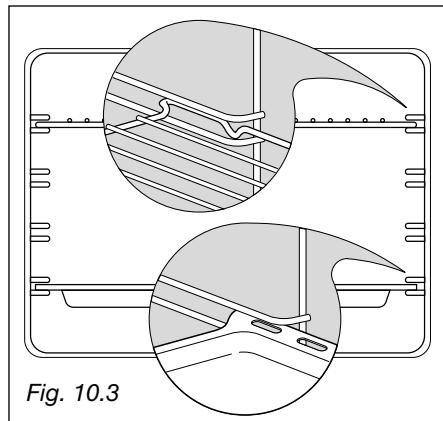

Fig. 10.3
- Slide in, on the guides, the shelf and the tray (fig. 10.3).